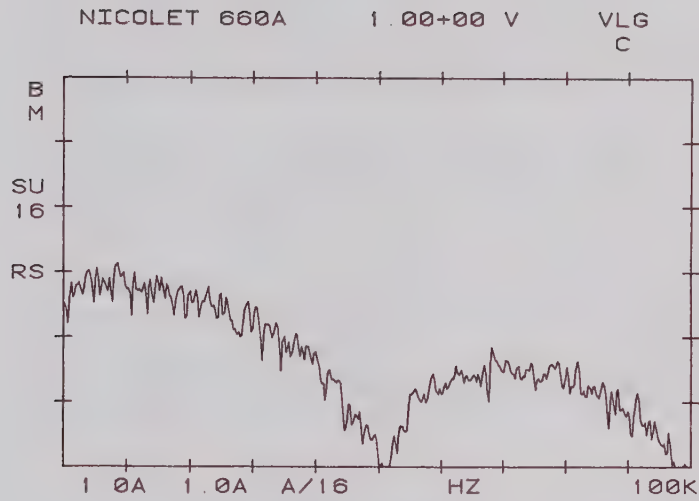

FIGURE T-2
- b. Place a 1 in the first character of LINE #1: Depress CALCULATION CONTROL 1. See Figure T-2.